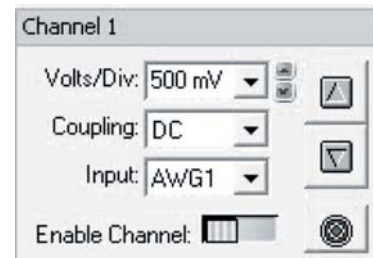

Fig. 7—Scope channel screen
2. Set up Channel 1 to 500 mV, DC coupling, and AWG1 input. (Input is from the Function Generator or the Arbitrary Waveform Generator if it has been set up instead.) See Fig. 7.